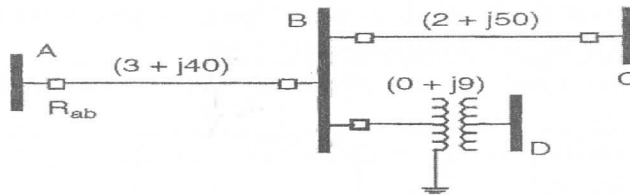

Fig. 4.
**Problem number (2) (30 Marks)**
- A current transformer (CT) has a rating of 100/5 A. its magnetizing and loss components of the exciting current are 6 A and 4 A respectively and its burden is purely resistive. Calculate the transformation ratio at rated current.
**Problem number (3)**
- b) Determine the three zone settings for the relay  $R_{ab}$  in the system shown in Figure 4. The system nominal voltage is 138 kV, and the positive sequence impedances for the various elements are given in the Figure. The transformer impedance is given in ohms as viewed from the 138 kV side. Assume that the maximum load at the relay site is 120 MVA, and select a CT ratio accordingly. The available distance relay has zone 1 and zone 2 settings from 0.2 to 10  $\Omega$ , and zone 3 settings from 0.5 to 40  $\Omega$ , in increments of 0.1  $\Omega$ . The angle of maximum torque can be adjusted to 75° or 80°.